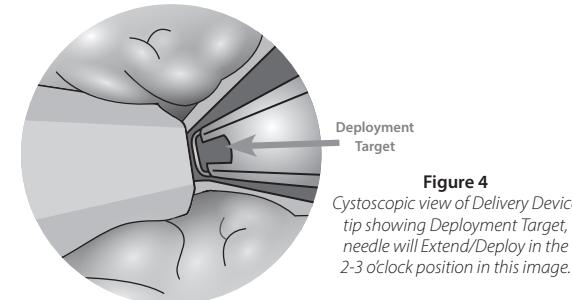

Figure 4
2.2.3 Position the Delivery Device such that the Deployment Target (Figure 4) is against the target prostatic lobe in the lateral direction.